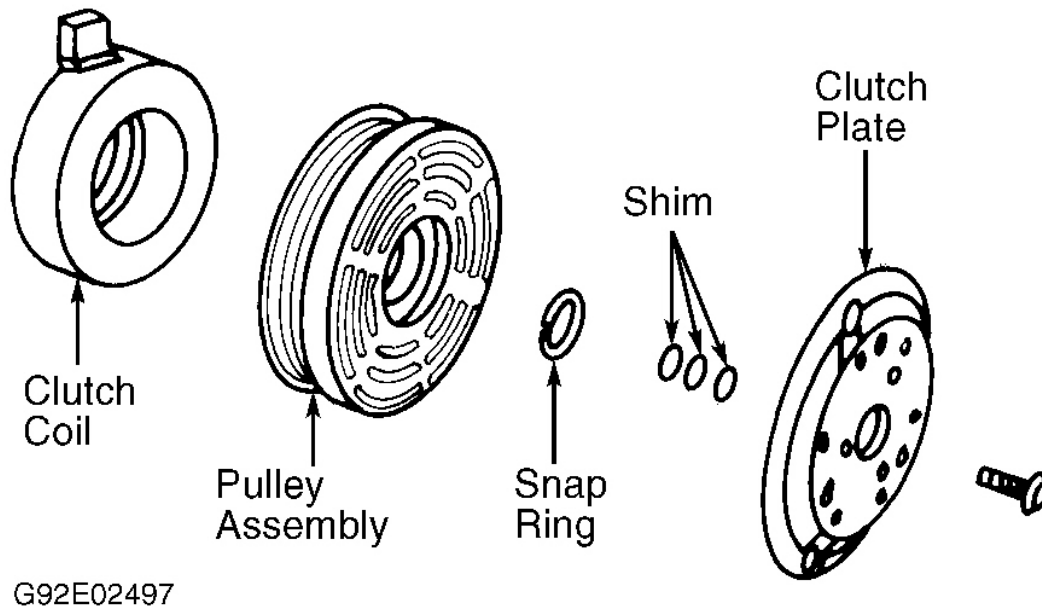

Fig. 2: Exploded View Of Compressor Clutch (Ford FS-10 Shown; Halla FX-15 Is Similar)
1. Hold clutch plate stationary and remove clutch plate center bolt. Remove clutch plate. If clutch plate cannot be removed by hand, use an 8 x 1.25-mm bolt threaded into clutch plate to remove clutch plate and shim(s). See Fig. 2 . Mark position of clutch coil electrical connector.
1. Hold clutch plate stationary and remove clutch plate center bolt. Remove clutch plate. If clutch plate cannot be removed by hand, use an 8 x 1.25-mm bolt threaded into clutch plate to remove clutch plate and shim(s). See Fig. 2.